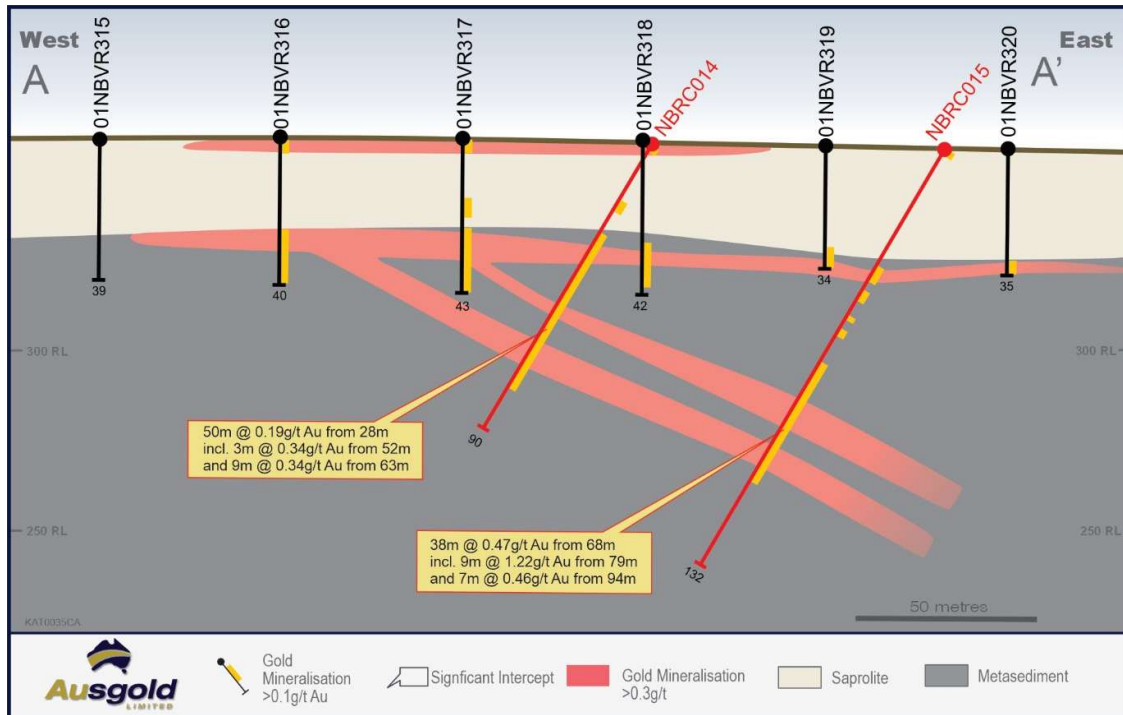

Figure 3 – Cross Section A-A' through Zinger highlighting new drilling and results
- 38m @ 0.47g/t Au from 68m including 9m @ 1.22g/t Au from 79m in NBRC015 (Figure 3)